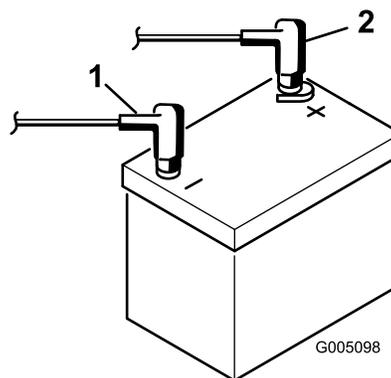

Figure 44
1. Disconnect the negative cable (black) and then the positive cable (red) from the battery (Figure 44).
6. Install the positive cable (red) to the positive (+) terminal and then the negative cable (black) to the negative (-) terminal of the battery (Figure 44) and secure them with the previously removed bolts and nuts. Slide the rubber boot over the positive terminal to prevent a possible short from occurring.